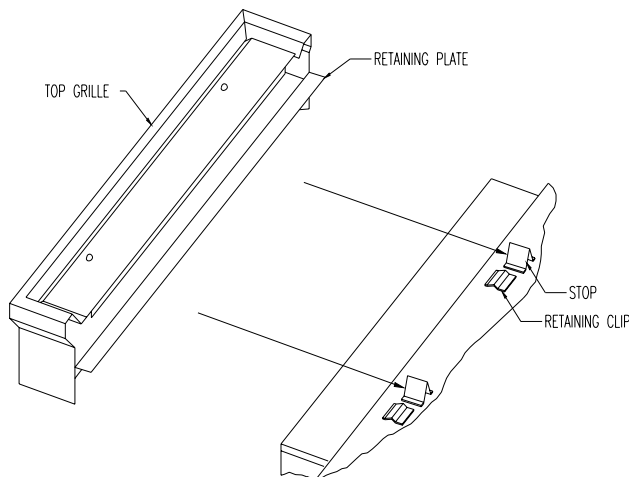

Figure 22a Flush
2. Push the grille retaining plate into the clips and against the stops on top of the insert (see Figures 22a & b).